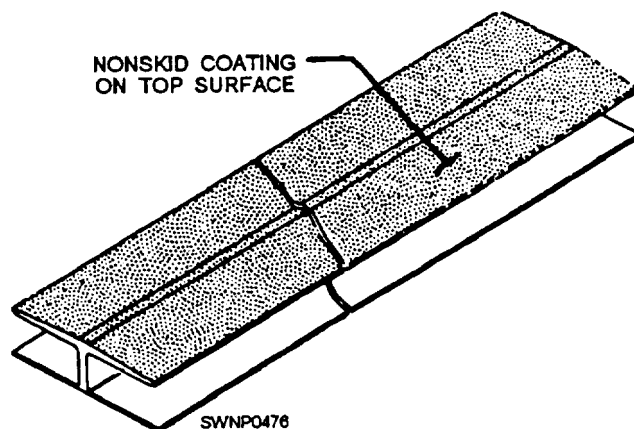

Figure 11-24 .—90-degree connector.
10. Install approach aprons at both ends of the runway. Use 90-degree connectors to join the approach aprons to the field matting. (See fig. 11-24.) Connectors